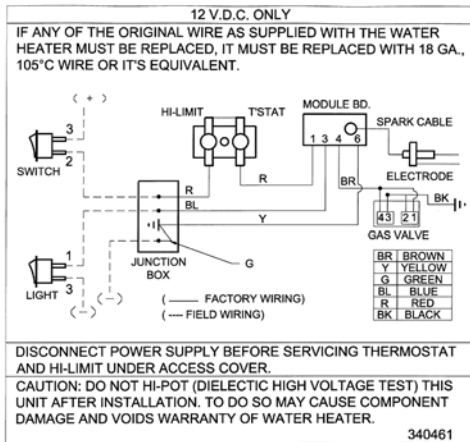

Figure 8
- D.** Make the 12 Volt D.C. electrical connections following the wiring diagram illustrated in Figure 8.